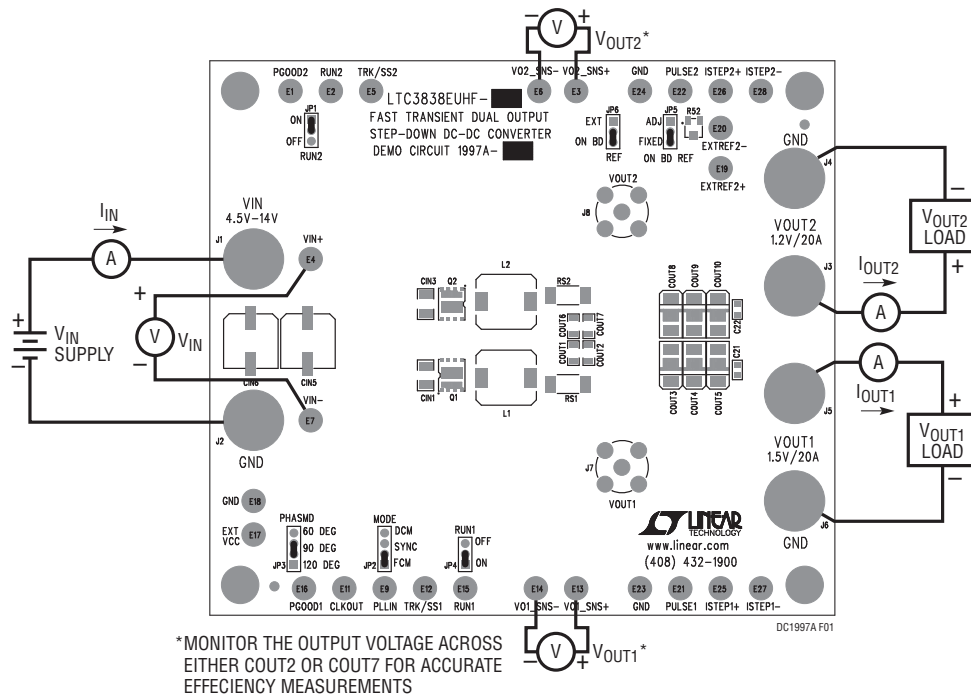

Figure 1. Proper Measurement Equipment Setup
Demonstration circuit DC1997A-A/DC1997A-B is easy to set up to evaluate the performance of the LTC3838EUHF-1/LTC3838EUHF-2. Please refer to Figure 1 for proper measurement equipment setup and follow the procedure below.
1. With power off, connect the input supply, load and meters as shown in Figure 1. Preset the load to 0A and VIN supply to be 0V. For both assemblies, place the jumpers in the following positions: